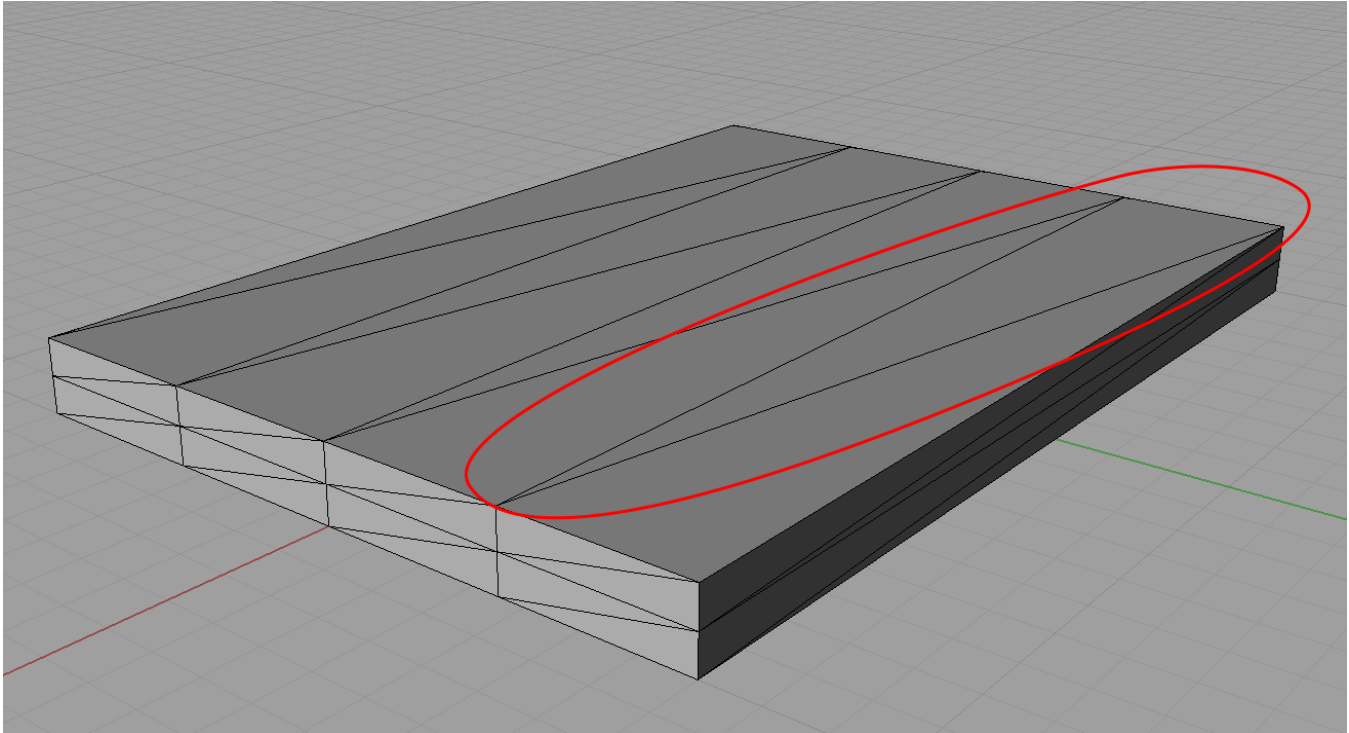

Figure 24: The poorly conditioned mesh imported in Rhino3D. A polygon with high aspect ratio is highlighted.
- ★ Figure 24 is poor as it includes polygons with high aspect ratio and a very coarse mesh.